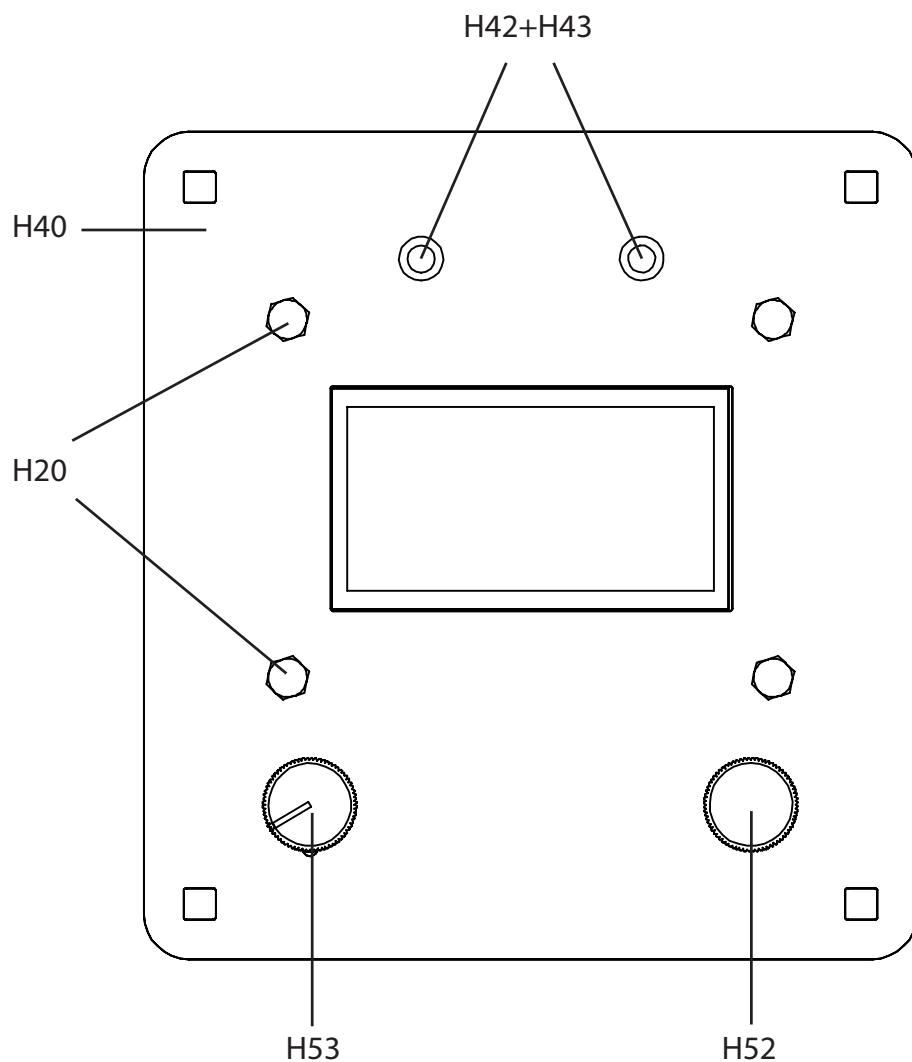

Figure 17: Front view of the User Interface
4. Fasten the H38 RotarySwitch and the H41 Potmoter as shown. Make sure it looks like figure 17.